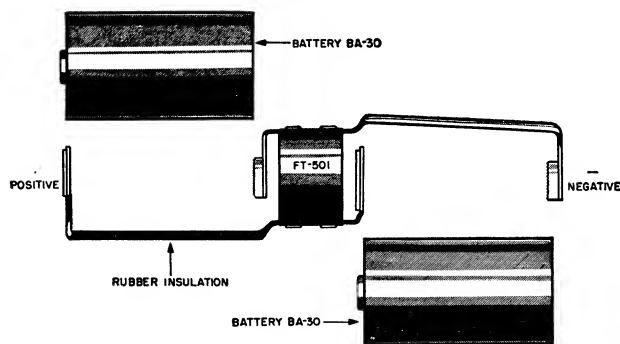

Figure 30. Battery Adapter FT-501, using two Batteries BA-30.
a. BATTERY ADAPTER FT-501. In actual operation under tactical conditions the filament current A Battery BA-37 expends itself before the B Battery BA-38 becomes inoperative. To take advantage of the more readily available flashlight Battery BA-30 as an emergency filament supply for Radio Set SCR-536-(*), Battery Adapter FT-501 (fig. 30) has been designed to hold two Batteries BA-30 and just fill the space in the compartment intended to hold the normal filament Battery BA-37. When not issued as a part of Radio Set SCR-536-(*), requisition of Battery Adapter FT-501 may be made through normal signal supply channels (Signal Corps stock No. 2Z200-501). Two Batteries BA-30 do not provide as long-lived filament supply (15 hours) as the normal BA-37 (19 hours), and should not be used if Battery BA-37 is available. Before using the adapter, be sure the contacts are clean and bright to insure good electrical connections between the adapter and the batteries and the spring connectors on the housing of the set. Battery Adapter FT-501 is inserted with plus (+), or raised button, end of the assembly toward the bottom of the housing.